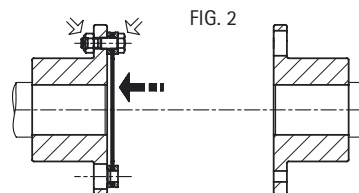

FIG. 2
- 4.1.4 Ensure that the flanges of the hubs (1) and the spacer (4) are perfectly degreased. Unpack the discs and the screws. Mount the disc-pack (3) on one hub (1) with screws (2) and nuts (5) in the direction shown on the fig 2. Tighten to torque T mentioned while holding the screws still and turning the nuts. See tabulation for tightening torque (T Nm) and socket size (s mm).
- 4.1.4 Ensure that both spacer ends (2) and DP flange (1.1) are perfectly degreased. Mount (see fig. 2) hub sub-assemblies (1) on spacer (2) with screws (3) and washers (4). Tighten screws (3) uniformly (tightening torque T3). See tabulation for correct tightening torque (Spacer T3 Nm) and key size (s mm).